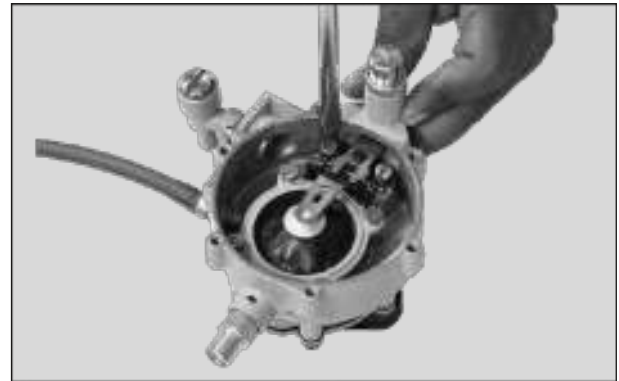

Fig. 7.28
- Loosen and remove 2 nos. Cheese head screw along with 2 nos. Lock washer. From kit secondary reducer. After take out the lever along with pin from kit secondary reducer unit. (Fig. 7.28)